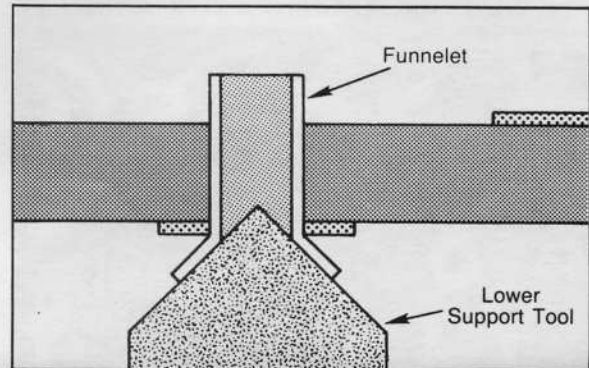

FIGURE 9. INSERTING FUNNELET/EYELET
STEP 7—Insert the selected Funnelet/Eyelet into the prepared hole. Insert Support Tool with base into head of Funnelet/Eyelet. (see Figure 9). Flip board over and rest on Support Tool while stabilizing board with your hand.